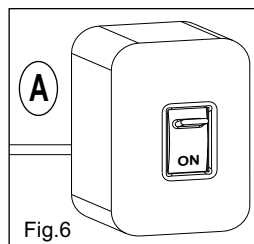

Fig. 6
2) Connect the control board to the power supply (Fig.6).